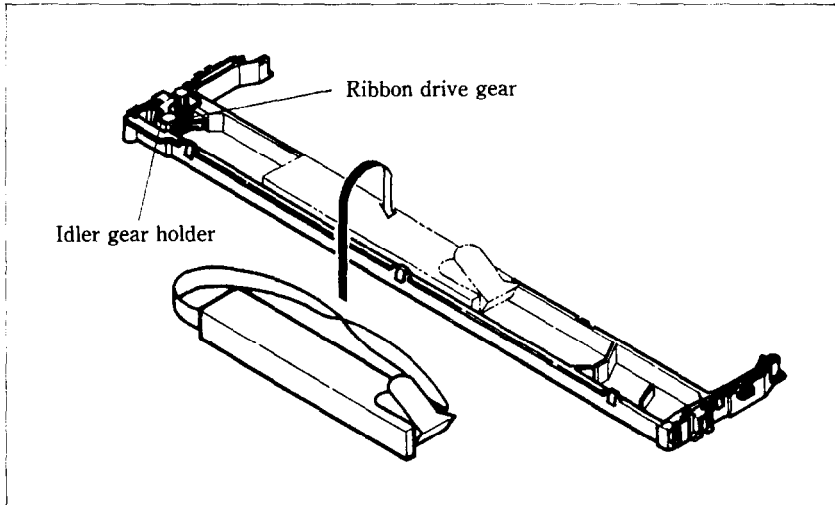

Figure 8-2. Replace the ribbon sub-cassette.
2. After opening the cartridge, take a moment to notice how the ribbon is threaded. Then press a finger against the idler gear holder (it is held in position by spring pressure), and make enough space to remove the ribbon from between the two gears. See Figure 8-2.
- Take the new ribbon and holder out of the wrapper, remove the adhesive tape on the joint on the holder, and place it into the cassette as shown in Figure 8-2.